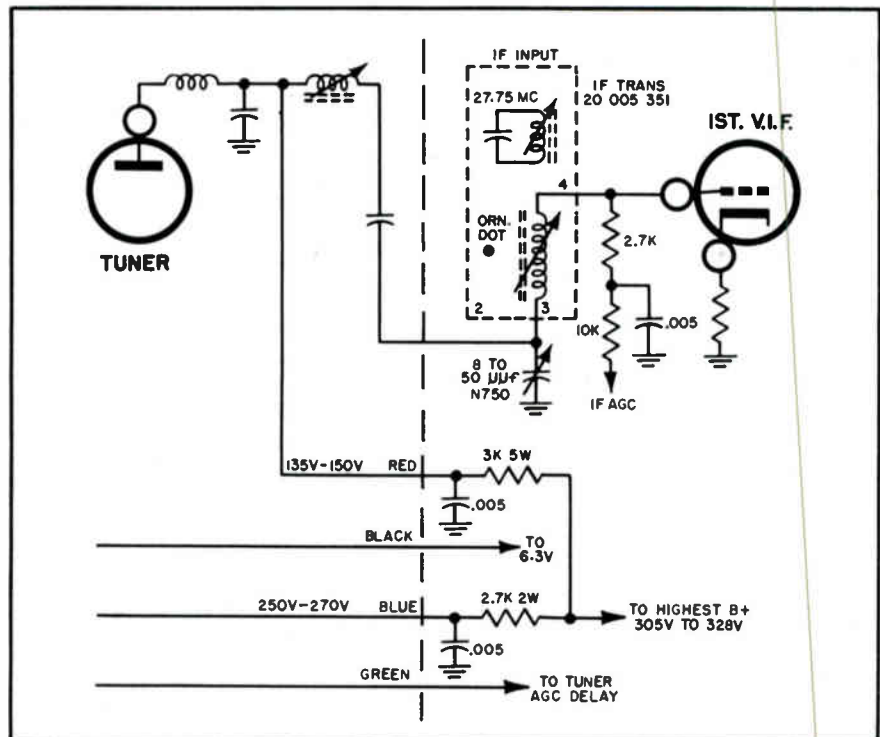

Figure B-2. Partial schematic showing cascode tuner connections to receiver chassis.
5. Check the part number of the old tuner. If it is 89 003 901, 3902 or 3911, replace the first i-f transformer (Z204) with part number 20 005 351. If L213, a slug tuned coil mounted next to Z204, is used, remove it. Rewire the circuit as shown in figure B-2. It may be necessary to add an 8-50 mmf ceramic trimmer capacitor between the first i-f transformer and ground. Some chassis have this capacitor already mounted on a standoff. If not, it may be mounted by soldering one terminal to pin 3 of Z204. If a 2.7K, 1/2W, resistor is not connected in grid circuit of the first vif, it must be added.
6. Install the new tuner, as shown in figure B-3. The lead connections are shown in figure B-2. A 3K, 5W, and a 2.7K, 2W, resistor must be added in the tuner B+ lines. The tuner ends of each resistor should be bypassed to ground with a .005 mf, ceramic disc capacitor.
4. Connect all tuner leads as shown in figure B-2. The 3K, 5W, and 2.7K, 2W, resistors must be added. The tuner side of each resistor should be bypassed to ground with a .005 mf ceramic disc capacitor.
7. Connect the tuner leads, as shown in the schematic of figure B-2. The 3.3K, 5W, and 2.7K, 2W resistors, should be mounted on the terminal strip mentioned in step 6 (see figure B-4C). Bypass the tuner end of each resistor to ground with a .005 mf ceramic disc capacitor.
8. Remove Z205, the first video i-f transformer, and replace it with part number 20 005 351. Remove L215, a slug tuned coil mounted next to Z205, if it is present. Connect Z205 as shown in figure B-2. The 8-50 mmf ceramic trimmer may be mounted by soldering one of its terminals to terminal 3 of Z205.